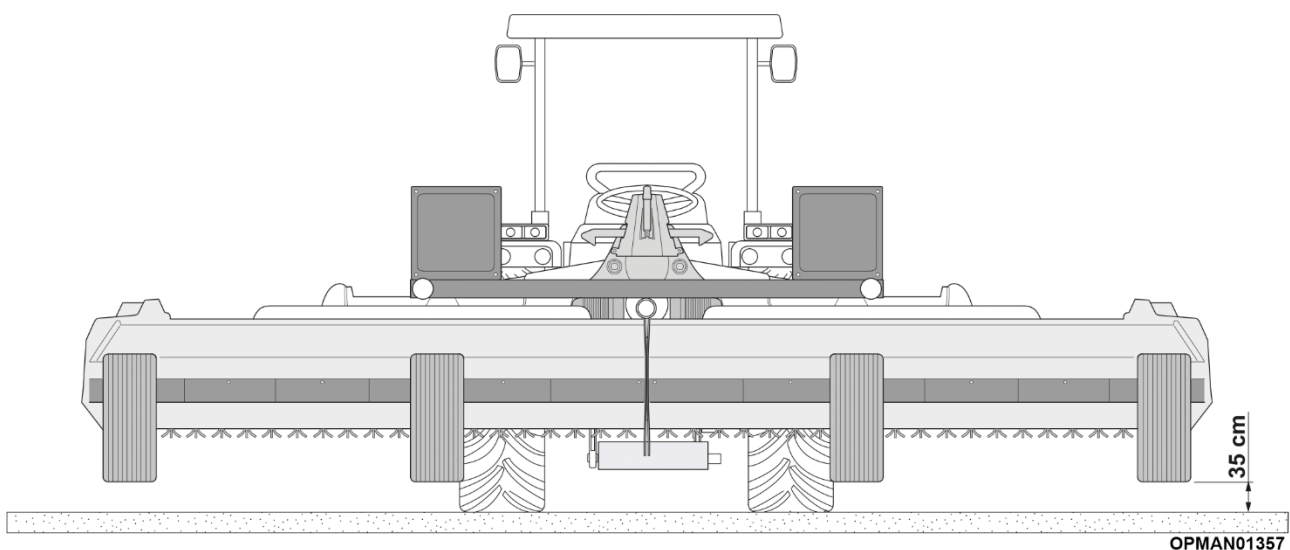

Figure 9
During transport and every time, the Mower must be lifted with the tractor it is fastened to, the linkage should be adjusted so that the machine is lifted from the ground by about 35 cm (see Figure 9).
- The machine is lifted off the ground (Figure 9) in order to avoid contact with the ground and road furniture.